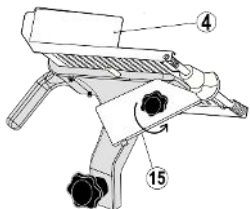

FIG 4. RELEASING HANDGRIP
1.- Place the product to be cut on the carriage tray (4). Choose product temperatures higher than 36°F (2°C) preferably. This machine was not made to slice meat with ice or bone.
2.- Pull the handgrip (15) in order to release. To accomplish, move the handgrip up to the top of the slide rod -DO NOT FORCE THIS OPERATION- then rotate the handgrip counterclockwise to its position over the carriage tray. (Fig. 4).